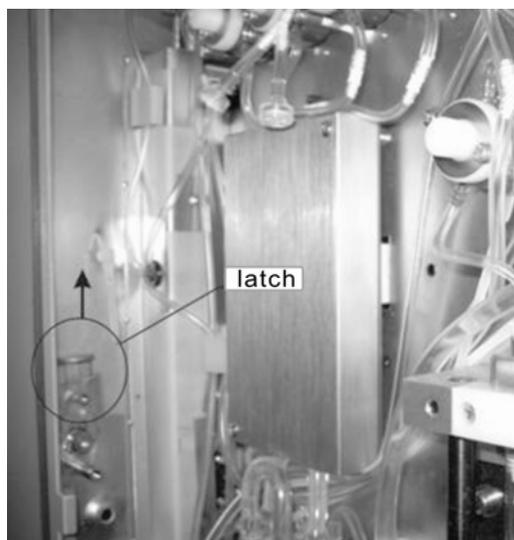

Figure10-43
3. Lift up the front panel latch as indicated in Figure10-43 and open the front panel;